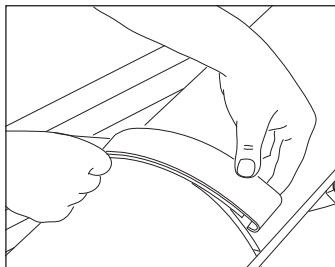

Fig. 11 – Fit ridge unions
- 20 Break off locating lugs on underside of hip/ridge union with pincers or other suitable tool before fitting. Make two small cuts (max. 5mm deep) at either side of block end hip tile to allow claws of hip ridge union to clip onto bead of batten section (Fig. 11, page 149).